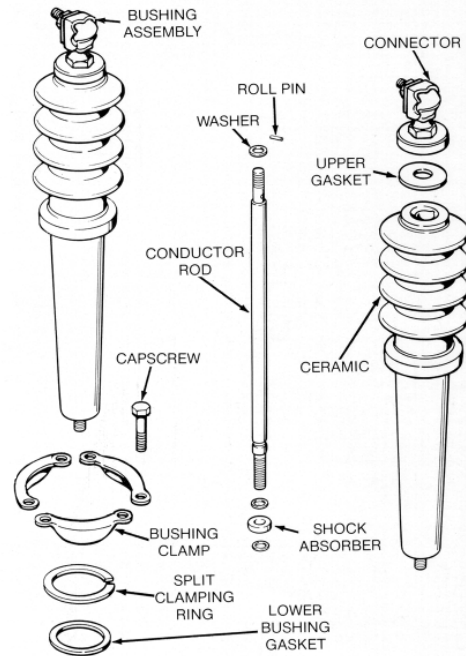

Figure 12.
5. Depending upon the extent of damage, the complete bushing assembly can be replaced or new ceramic only can be installed. If new ceramic only is to be installed, refer to Figure 12 and proceed as follows: